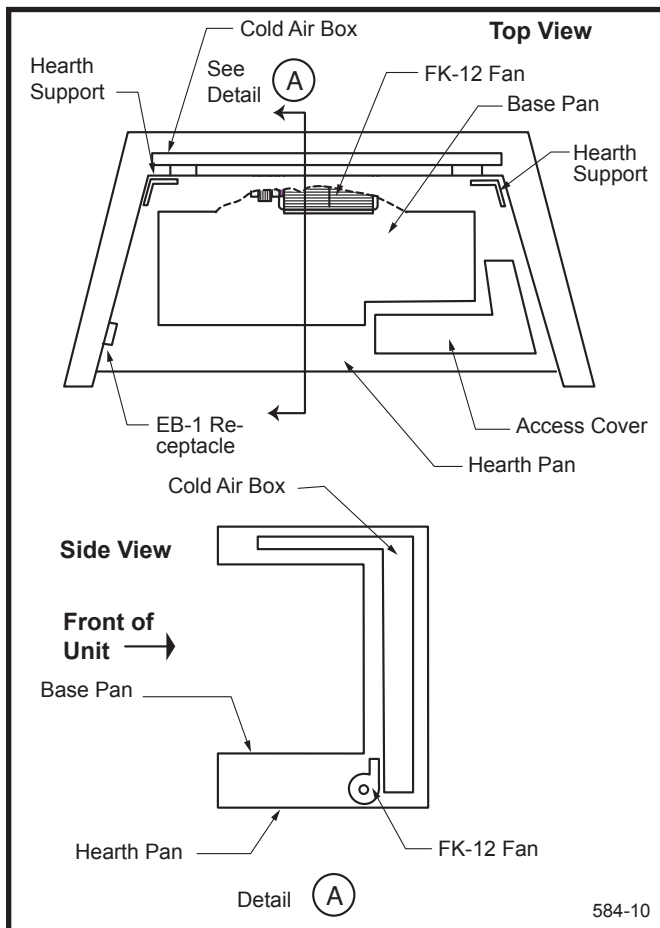

Fig. 72 FK-12 Fan Kit placement.
6. Install FK-12 fan in back of unit between hearth supports. (Fig. 72)